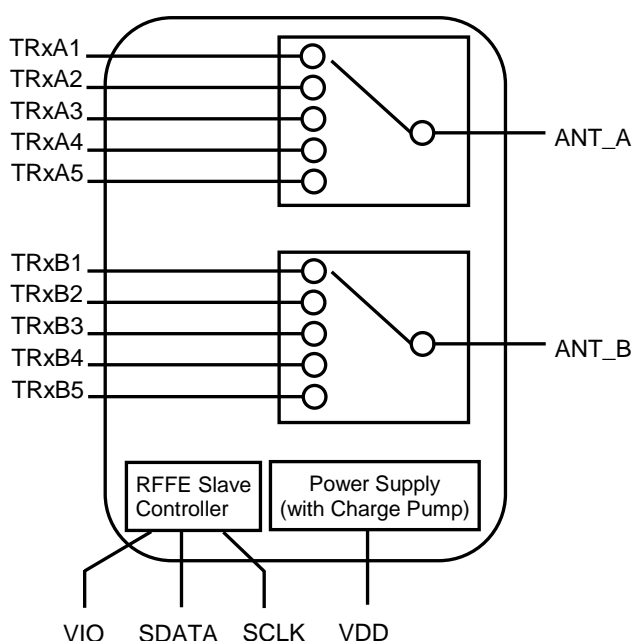
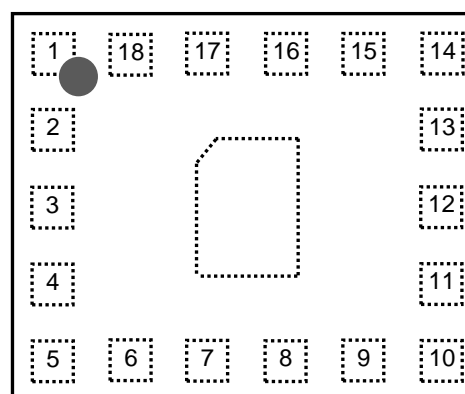

Figure 1. RFASWY581CTF03 Block Diagram
Figure 2. RFASWY581CTF03 Pin assignment
- The functional block diagram is shown in Figure 1. The pin assignment and package are shown in Figure 2. Signal pin assignments and functional pin descriptions are provided in Table 1.